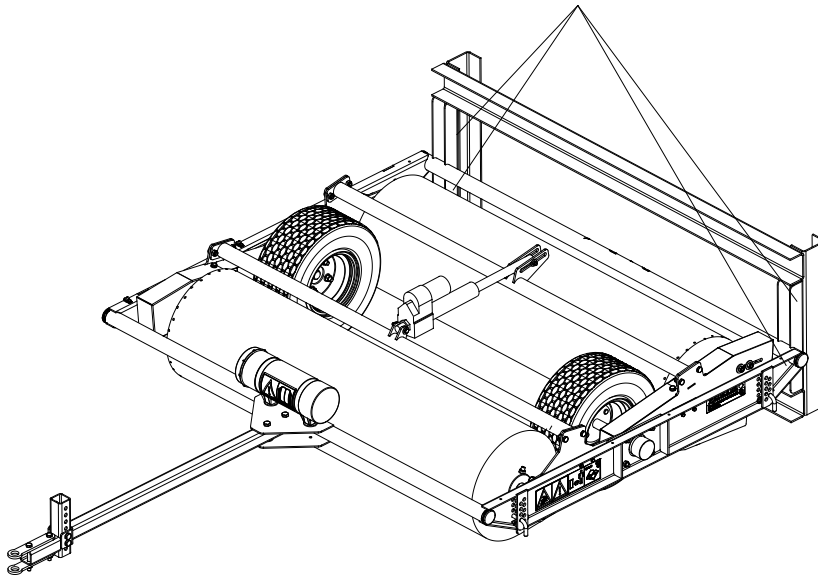

Figure 7
6. Unscrew the four bolts (1) to loosen the pallet (Figure 7) and subsequently, remove the pallet.